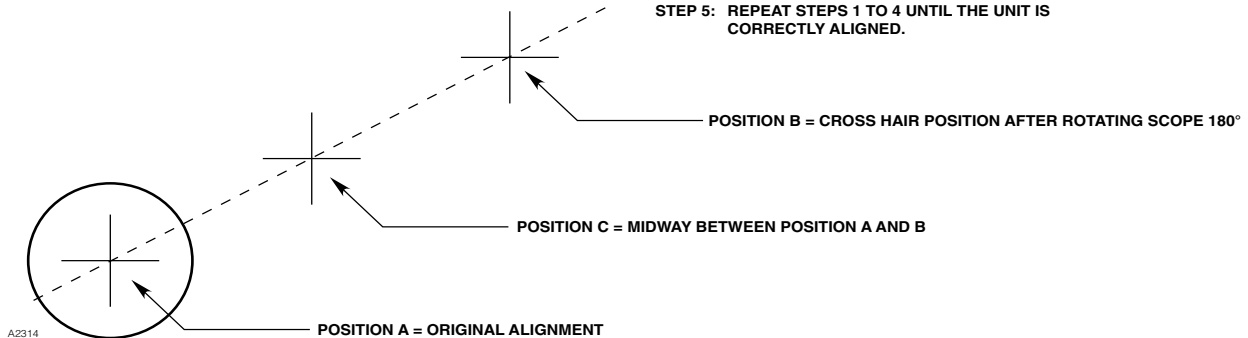

Figure 20—OPECL Alignment using the Telescope Alignment Tool
- A. Adjust the telescope alignment screws until the cross hairs are midway between the original position (center of transmitter window) and the current position (after the scope was rotated 180°). See Figure 20.